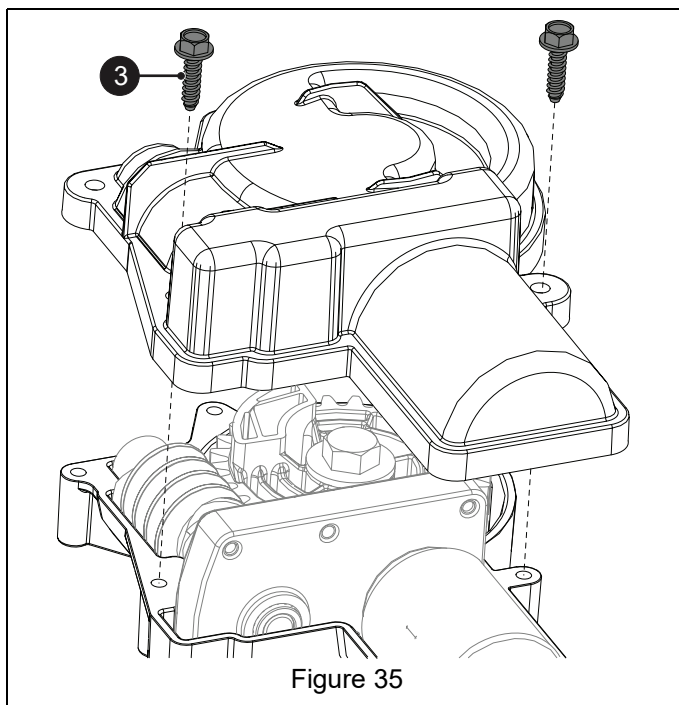

Figure 35
15. Reinstall top gear case onto bottom gear case. Ensure that electrical lead is properly positioned in notch in cover. Secure cover using two Plastite hex tapping screws (item 3). Torque screws to 4.5 N•m – 6.8 N•m (40 lb-in – 60 lb-in). DO NOT over tighten. See Figure 35.